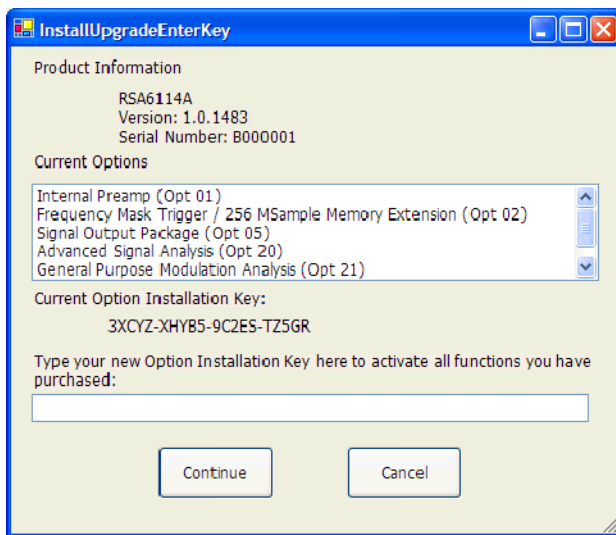

Figure 9: Entering the option installation key
3. Type the option installation key into the empty text box and click **Continue**. See Figure 9.